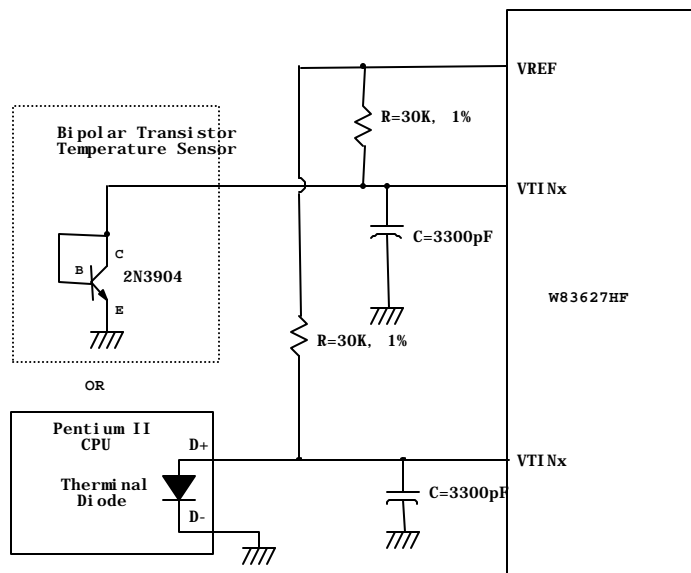

Figure 2.3
The W83627HF can alternate the thermistor to Pentium II™ (Deschutes) thermal diode interface or transistor 2N3904 and the circuit connection is shown as Figure 2.3. The pin of Pentium II™ D- is connected to power supply ground (GND) and the pin D+ is connected to pin VTINx in the W83627HF. The resistor R=30K ohms should be connected to VREF to supply the diode bias current and the bypass capacitor C=3300pF should be added to filter the high frequency noise. The transistor 2N3904 should be connected to a form with a diode, that is, the Base (B) and Collector (C) in the 2N3904 should be tied together to act as a thermal diode.